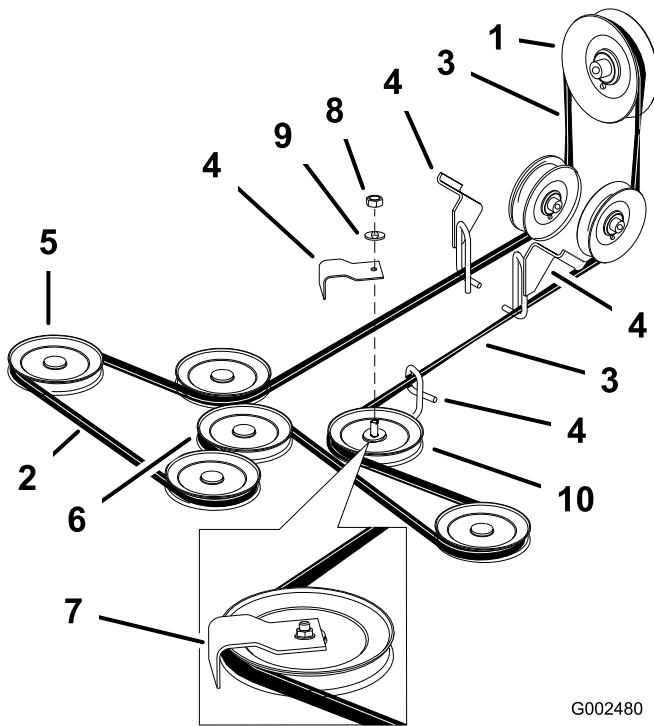

Figure 54
4. Loosen the nut securing the idler plate and move the idler plate to relieve the belt tension on the idler pulley (Figure 54).
6. Remove the mower belt from the belt guides and remove the belt (Figure 54).
7. Install the new mower belt around the mower spindle pulleys, mower idler pulley, into the belt guides, into rear idler arm assembly, and the clutch (Figure 54).
Note: Check the amount of twist in the belt between the pulleys. Ensure it is only what is specified in Figure 54.
Important: Check the amount of twist in the belt between the pulleys. Make sure it is only what is specified in Figure 54.